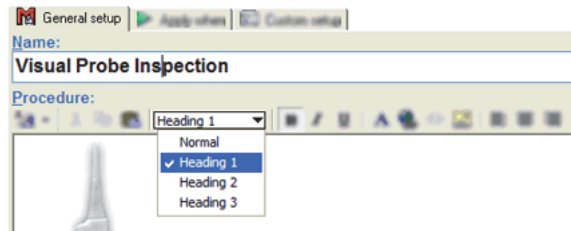

Figure 3-17. Procedure Editor Style Menu
10. Click the Styles dropdown menu on the toolbar and select Heading 1 as shown in Figure 3-17. Then enter the text that will serve as a heading in the procedure. Text is shown in bold face. HTML procedures support four predefined styles for formatting headings and normal text.